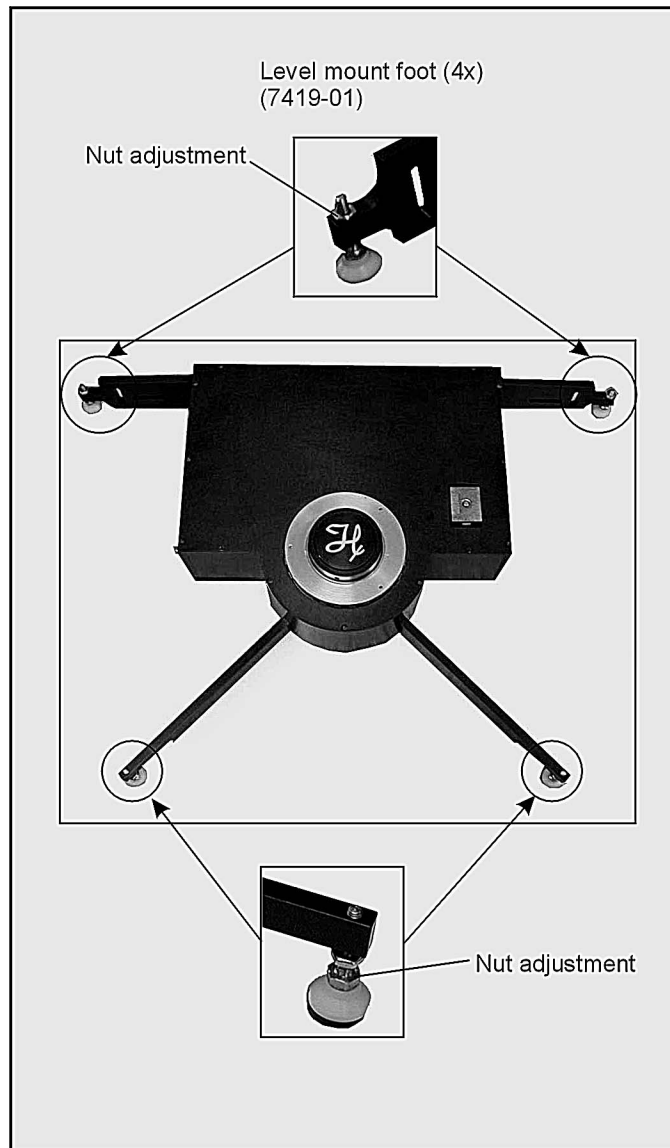

Figure 11: Mounting feet locations
3. Use an adjustable wrench to adjust the nuts on all the mounting feet (7419-01), so the carousel platter is level. See figure 11.